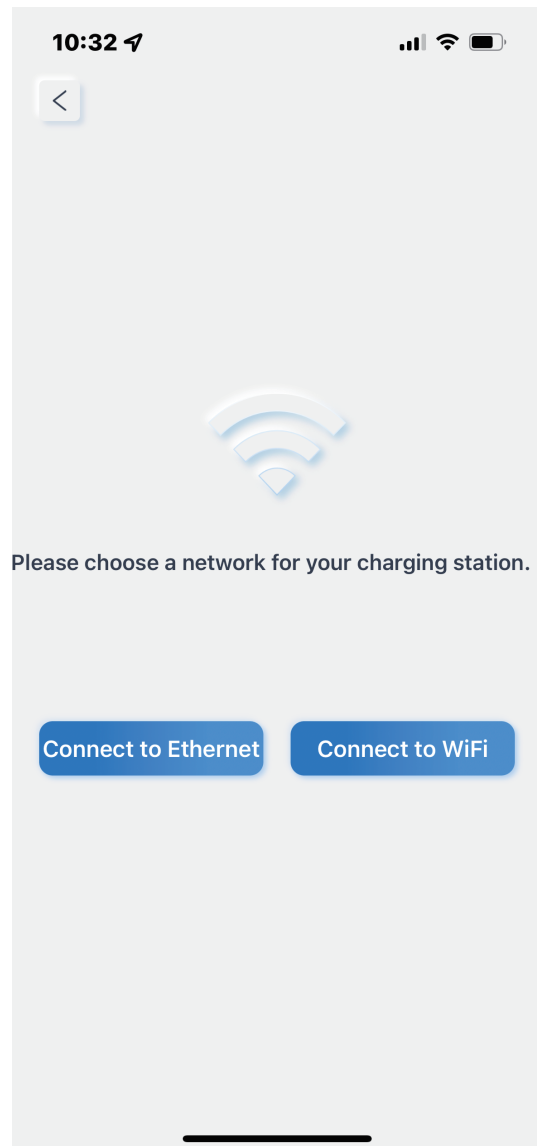

Fig.6.1.5
5. Select the Wi-Fi network. (See Figure 6.1.5)